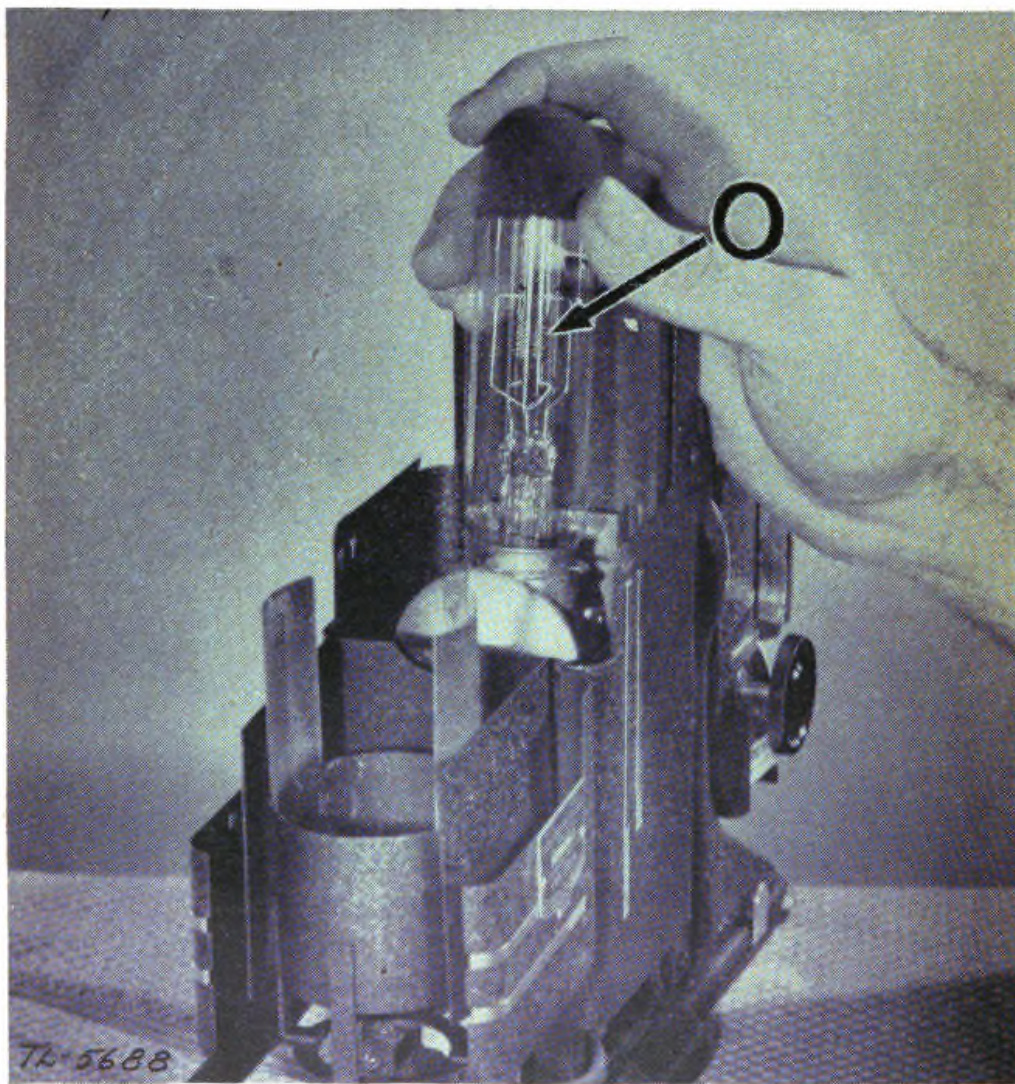

FIGURE 76.—Replacing projector lamp.
24. Lamp.—To remove projector lamp *O* (fig. 76), push the lamp down in its socket, rotate counterclockwise, and lift out. Reverse the procedure to replace. Lamp switch must be turned off during removal.